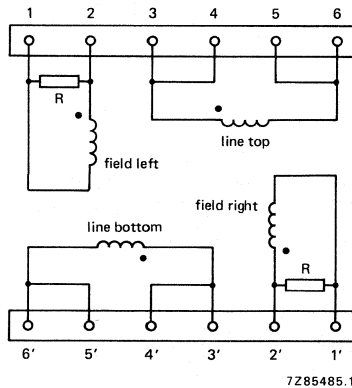

Fig. 2 Diagram of line and field coils; R = 270 Ω .
If a further improvement of raster geometry is required use can be made of correction magnets*, which must be fitted to mounting posts (1). The unit has solder pins for connection. The pin numbering in Fig. 1 corresponds to that in Fig. 2.